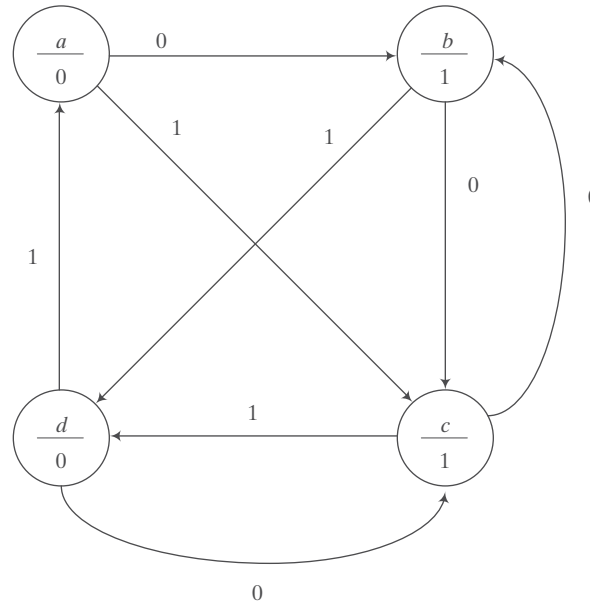

FIGURE P5.49
- 5.49** Write a Verilog model of the Moore FSM described by the state diagram in Fig. P5.49. Develop a test bench and demonstrate that the machine's state transitions and output correspond to its state diagram.